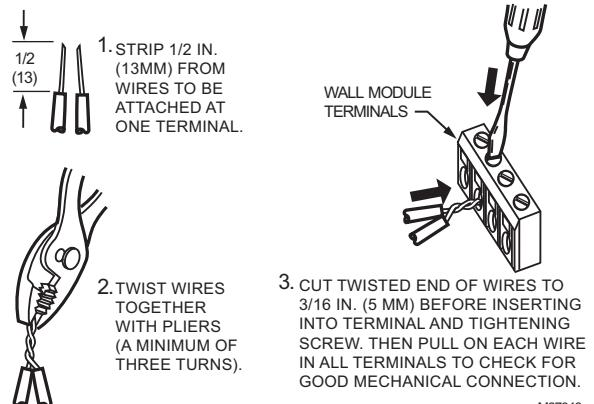

Fig. 5. Attaching two wires (20 to 24 AWG) to LCD Wall Module terminals.
- NOTE: When two or more wires are being inserted into one terminal, be sure to twist them together. Deviation from this rule can result in improper electrical contact. See Fig. 5.